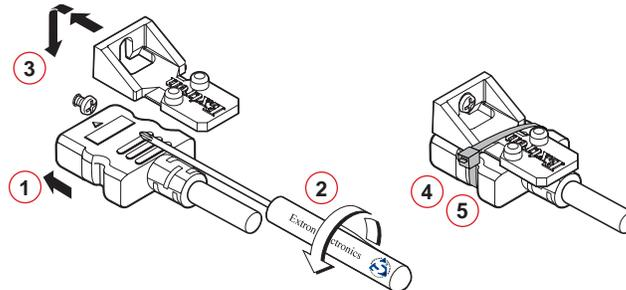

Figure 6. Installing the LockIt Lacing Bracket
1. Plug the HDMI cable into the panel connection (see figure 6).